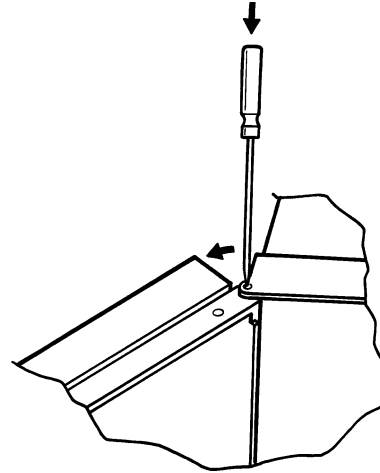

Figure 4.10.1b Door hinge location
- d. Using a small screwdriver, or similar, press down on the sprung pin at the top of the door as shown in figure 4.10.1b.